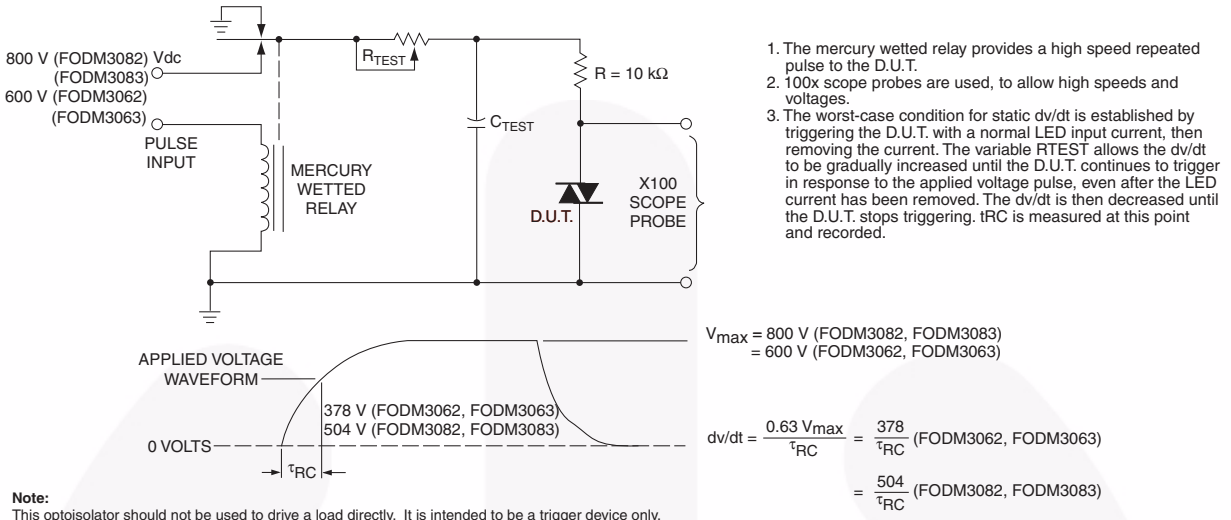

Figure 10. Static dv/dt Test Circuit
| dv/dt            | Critical Rate of Rise of Off-State Voltage | $I_F = 0$ (Figure 10) (3)     | All    | 600  |      |      | V/ $\mu\text{s}$ |
- This is static dv/dt. See Figure 10 for test circuit. Commutating dv/dt is function of the load-driving thyristor(s) only.